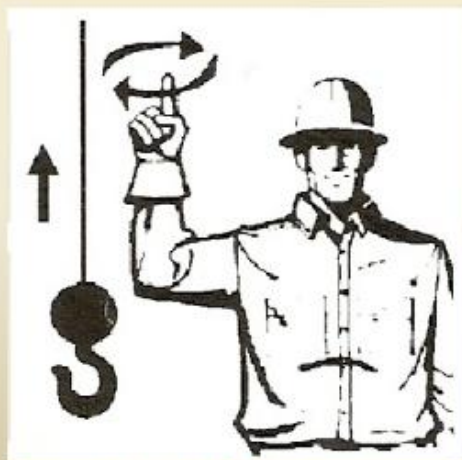

Figure 1 Up or Hoist.
1. With your forearm vertical and your forefinger pointing up, move your hand in small horizontal circles (Figure 1).